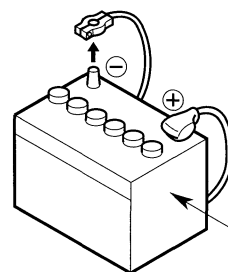

Figure 1 / Figure 1 / Figura 1
3. Be sure to disconnect the battery “⊖” terminal before starting. This is to prevent short circuits during installation (Figure 1).
3. S'assurer de débrancher la borne "⊖" de la batterie avant de commencer. Cela évitera les court-circuits pendant l'installation (Figure 1).